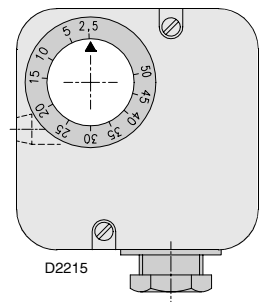

Fig. 23
- adjust the air pressure switch (Fig. 23) on the burner air box, at the start of the scale.